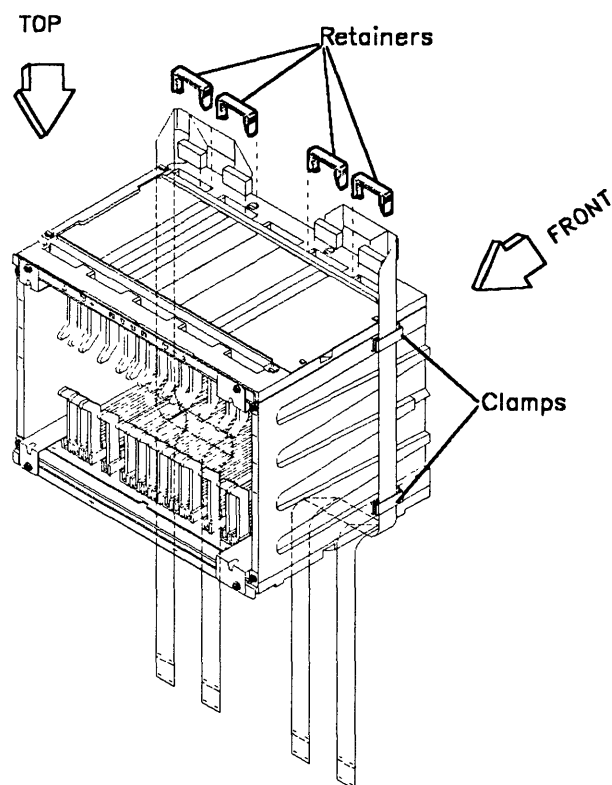

Figure 5-165. Upper View of the SAC Gate Assembly
8. Refer to Figure 5-165. Working from the front of frame 01, do the following:
3. Refer to Figure 5-165 on page 5-164, then, at the front side, do the following :